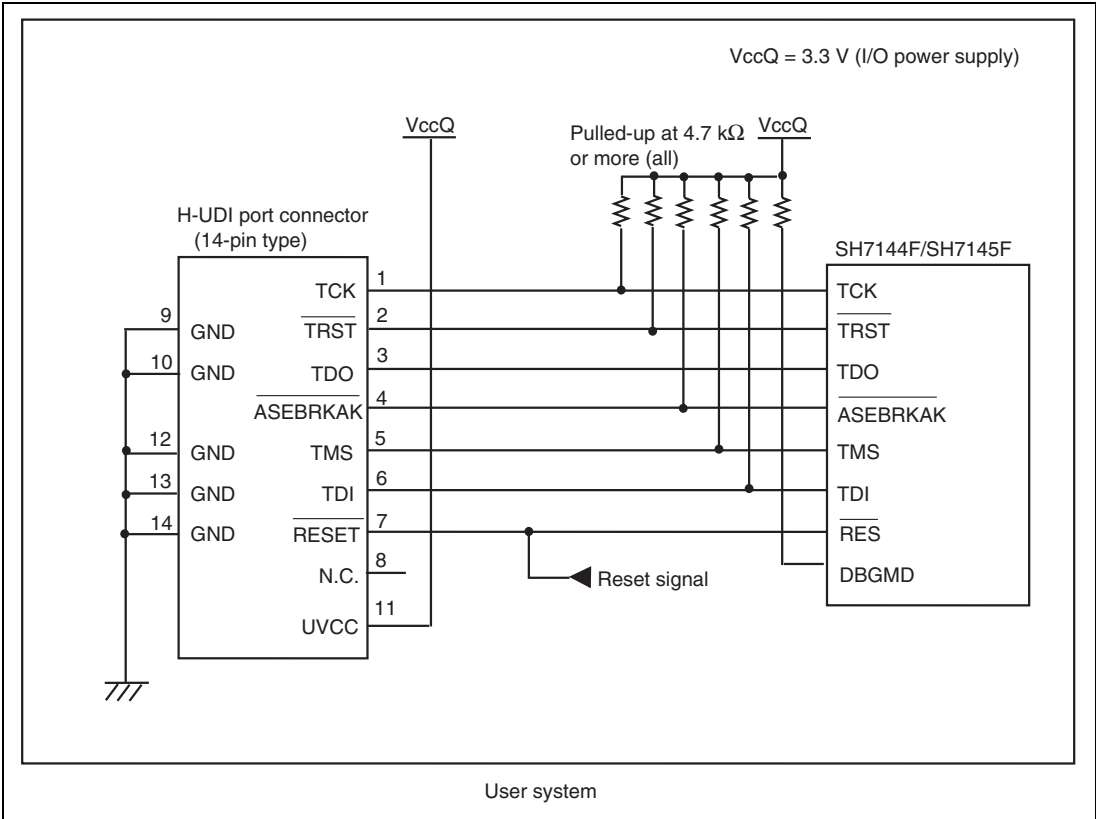
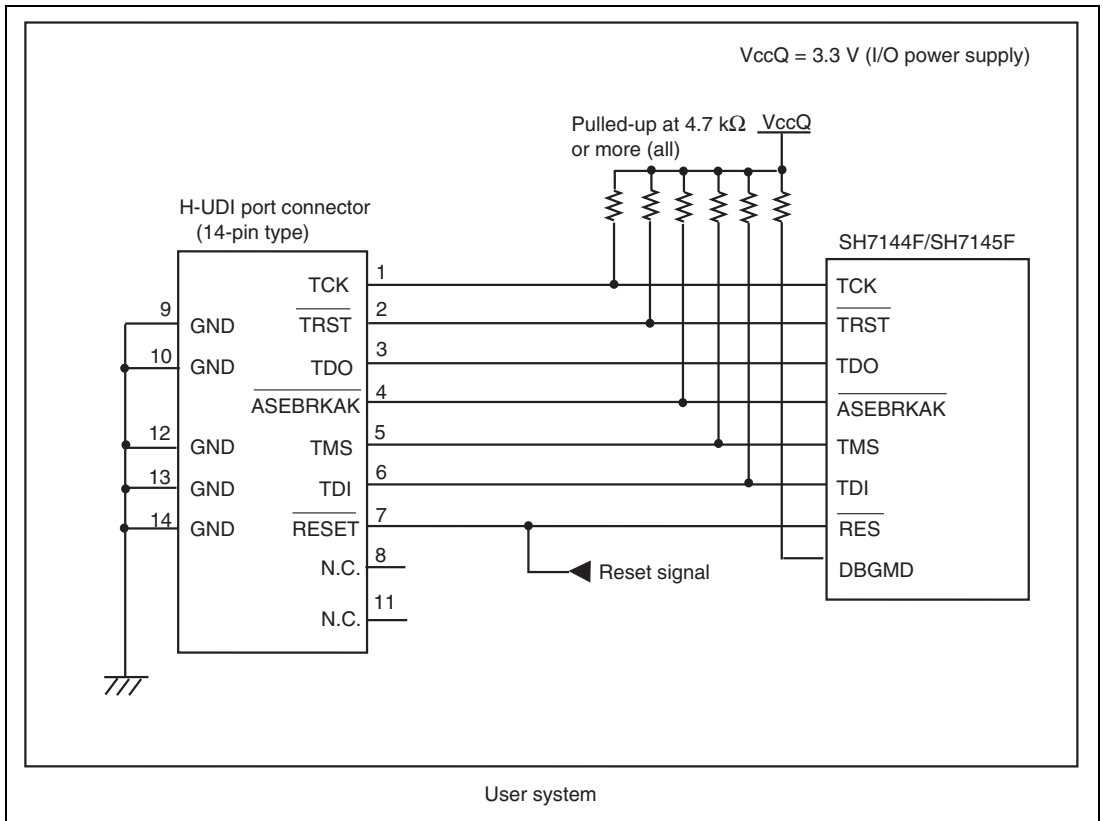

Figure 1.5 Recommended Circuit for Connection between the H-UDI Port Connector and MCU when the Emulator is in Use (14-Pin Type UVCC Connected)
Figure 1.6 Circuit for Connection between the H-UDI Port Connector and MCU when the Emulator is in Use (14-Pin Type UVCC Not Connected*)
Figure 1.5 shows a recommended circuit for connection between the H-UDI and AUD port connectors (14 pins) and the MCU when the emulator is in use. Figure 1.6 shows a circuit for connection when UVCC is not connected.
- (1) When the emulator is used: $\text{DBGMD} = 1$ (ASE mode)
- (2) When the emulator is not used: $\text{DBGMD} = 0$ (normal mode)
5. When the power supply of the user system is turned off, supplying V_{ccQ} of the user system to the UVCC pin reduces the leakage current from the emulator to the user system. A level shifter that is activated by the internal power supply or user power supply (changed by the switch) is installed in the interface circuit of the emulator. If the user power is supplied to the UVCC pin, the level shifter is not activated as long as no user power is supplied. When the power supply of the user system is turned off, no current flows from the user interface. The I/O voltage level of the user system interface can be the same as that of the V_{ccQ} . To operate the emulator with low voltage (lower than 3.3 V), the V_{ccQ} must be supplied to the UVCC pin. Make the emulator's switch settings so that the V_{ccQ} will be supplied ($\text{SW2} = 1$ and $\text{SW3} = 1$) (as shown in figure 1.5).
6. The resistance values shown in figures 1.5 and 1.6 are recommended.
When the circuit is connected as shown in figure 1.5, the switches of the emulator are set as SW2 = 1 and SW3 = 1. For details, refer to section 3.8, Setting the DIP Switches, in the SuperH™ Family E10A-USB Emulator User’s Manual.
When the circuit is connected as shown in figure 1.6, the switches of the emulator are set as SW2 = 0 and SW3 = 1. For details, refer to section 3.8, Setting the DIP Switches, in the SuperH™ Family E10A-USB Emulator User's Manual.